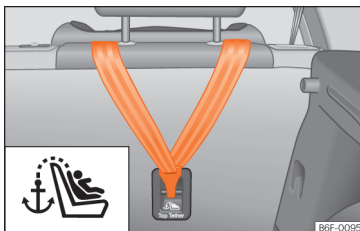

Fig. 41 Rear part of the rear seats: securing rings for the Top Tether strap.
- Slide the strap and secure it properly with the anchor on the rear seat backrest >>> Fig. 41.